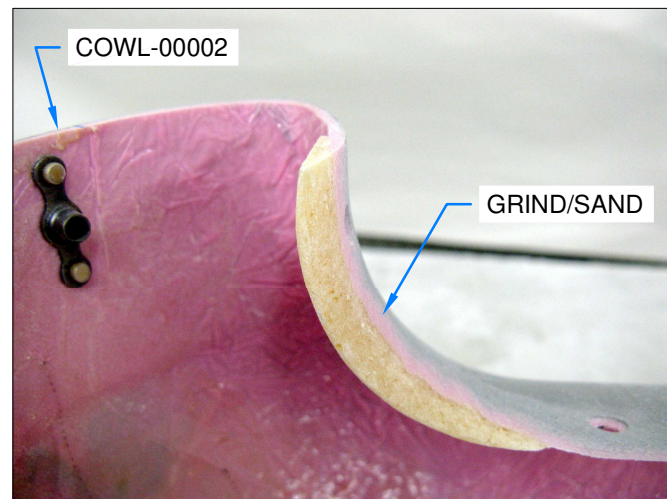

FIGURE 1: OUTBOARD TRANSITION - LEFT
Step 1: Grind/sand away the COWL-00002 Bottom Cowl and epoxy/flox at the inboard and outboard corners on the left and right sides to create smooth transitions (i.e. rounded surfaces with relatively sharp trailing edges) between the bottom cowl and the (soon-to-be-installed) CB-00032N and CB-00032O Cowl Baffle Seals. See Figure 1 and Figure 2.